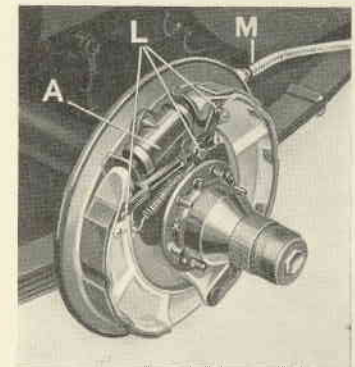

Fig. 22.
Remove the wheel and drum as described for the front wheels, but the removal of the shoes differs owing to the hand brake mechanism, and is as follows:—With the brake drum off, remove the cotter pin holding the fulcrum pin of the toggle arms (L) Fig. 22, and withdraw pin when the toggle will be free. The cotter pin will be found at the back of the fulcrum pin. Then release brake return spring and the shoe fulcrum pin, and pull shoes clear of the hydraulic cylinder as mentioned above in connection with the front brakes. The instructions on the previous page ("Removing Front Brake Drum") in regard to "corresponding" marks for drum and hub should also be followed when removing either of the rear brake drums. Before replacing the brake drums ascertain that the mechanism is functioning correctly.